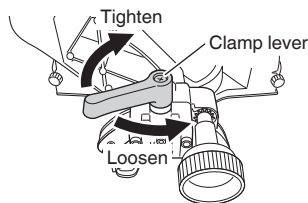

Fig. 23
- (4) Loosen the clamp lever, tilt the saw blade to 45° horizontally, and fix the clamp lever. Insert a groove in the cutting edge plate in the same way as for a right angle. **(Fig. 23)**